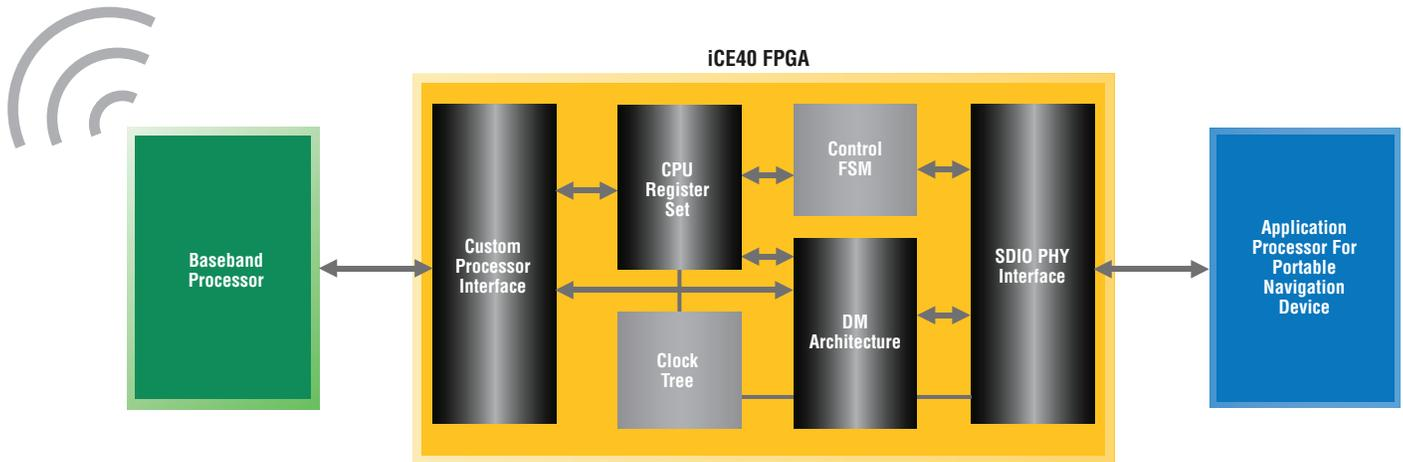

Figure 3: Enabling 3G connectivity through an SDIO client to the Navigation Application Processor
Lattice offers a quick way to add 3G capability to PND products by bridging to the SDIO ports of an existing PND Application Processor (AP). See Figure 3 for a detailed block diagram. Both PND AP and baseband processors offer only the SDIO host controllers preventing it from making the direct connection. Implementing an SDIO client controller to bridge the PND AP and high-speed parallel bus for the baseband processor is the ideal solution and offers the following advantages: